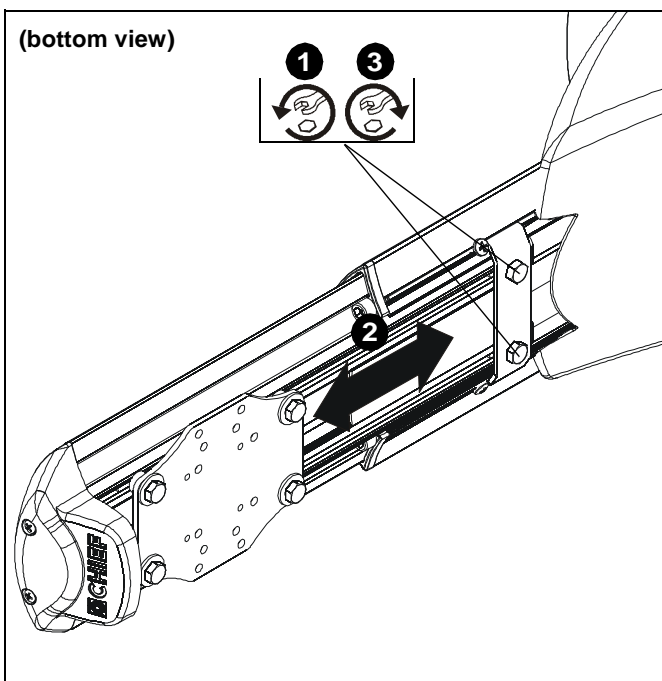

Figure 27
- Loosen two bolts holding stop bracket in place on underside of short throw projector mount. (See Figure 27)
- Adjust mount to desired extension length. (See Figure 27)
- Tighten two bolts holding stop bracket to secure mount in desired position. (See Figure 27)